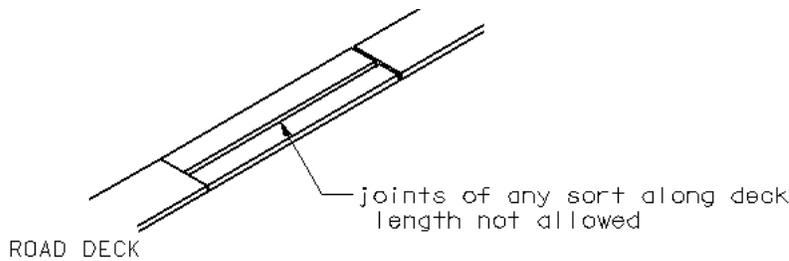

Figure 2: Joints Along Road Deck
- The solid road deck shall have no gaps or joints running along the length of the bridge (see Figure 2).